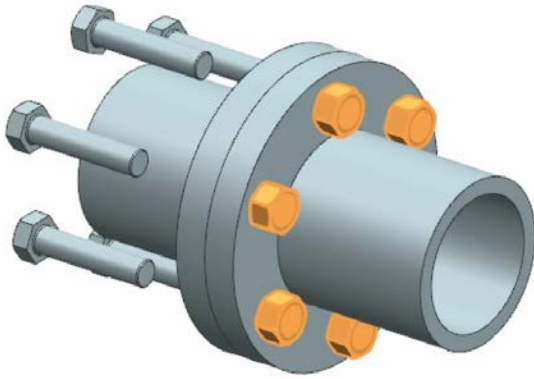

Figure 9-41 Nuts selected from the assembly for explosion
6. Select all the Nuts from the assembly; the Nuts are highlighted in the graphics window, refer to Figure 9-41. Next, choose the **OK** button from the dialog box; the **Class Selection** dialog box is closed and the **Auto-explode Components** dialog box is displayed.